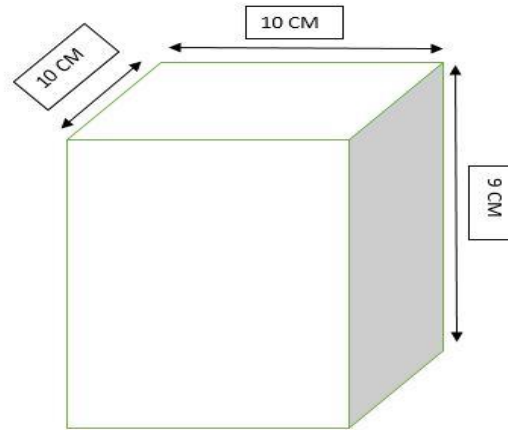

Figure 5: Dimension of Indicator Block
- Dimension of each indicator block is 10cm x 10cm x 9 cm as shown in Figure 5.